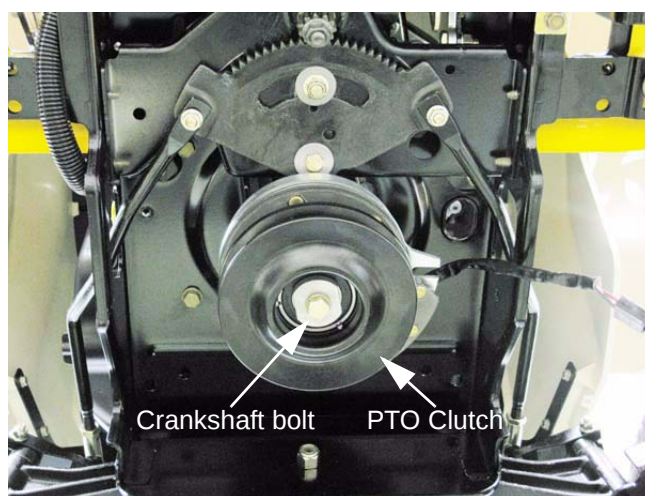

Figure 5.55
- 10b. Remove the bolt that holds the PTO clutch to the engine crankshaft using a 5/8" wrench. See Figure 5.55.